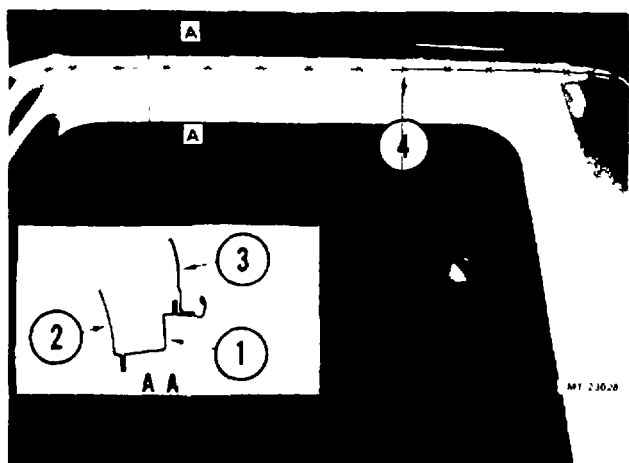

Fig. 39 Side Panel to Outer Roof Panel Spot Welds
3. Drill out spot welds along drip moulding from front to rear and around corner to end of side panel. Separate side panel from outer roof panel (Fig. 39).